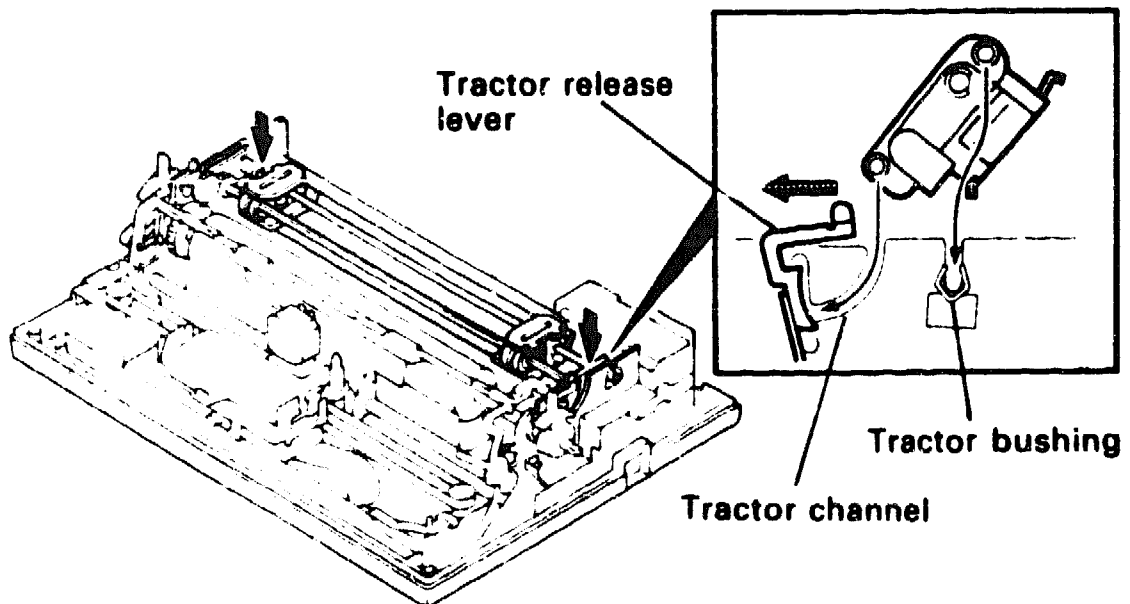

Figure 6-17 Installing the Tractor Assembly
1. Pull the tractor release levers forward and line up the front tractor bushings with the exit tractor channels (Figure 6-17).
2. Press down the right and left sides of the tractor assembly and engage the rear tractor bushings into the clamps (Figure 6-17).